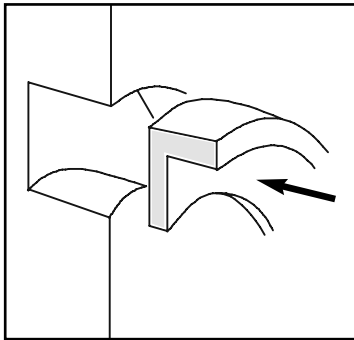

Figure 15 Cup Rubber Insertion in Rotor
- To fit seal seat to rotor (56 & 57), first insert cup rubber (83) into the rotor (do not lubricate), ensure alignment with drive pin. (see figure 15). If PTFE trim is fitted, insert the rubber washer first followed by the PTFE sleeve. Note that the sleeve is slightly tapered and will be easier to fit if the narrow side is inserted first. Then lubricate outside diameter of seal seat. (do not use mineral-oil based lubricants on EPDM joints) Align drive pin with one of the three slots in seal seat. Engage the leading edge of the seal seat into the cup rubber or PTFE sleeve. Push down evenly until seal seat rests squarely on bottom of seal bore in rotor. Do not damage seat face. When correctly fitted, the seat is parallel with the back face of the rotor and must not be tilted. Any "run-out" of
a) To re-assemble, place O-ring (93) in double seal housing (95), lubricate outside of static seat with a suitable lubricant compatible with the barrier fluid. Align slots in seal face with dogs of drive plate (81) in seal housing (see figure 15) and push seat fully in. The seat should slide freely against the plate (81) and wave spring (82).
b) If fitting double seals to a pump for the first time, e.g. retrofitting a single seal pump, gently tap or press the support ring (92) square up against the shoulder on each shaft.
d) Fit O-ring (93) to rotary seal seat (92). Gently push seal seat squarely on to shaft, aligning hole in rear of seal face with pin on the support ring.